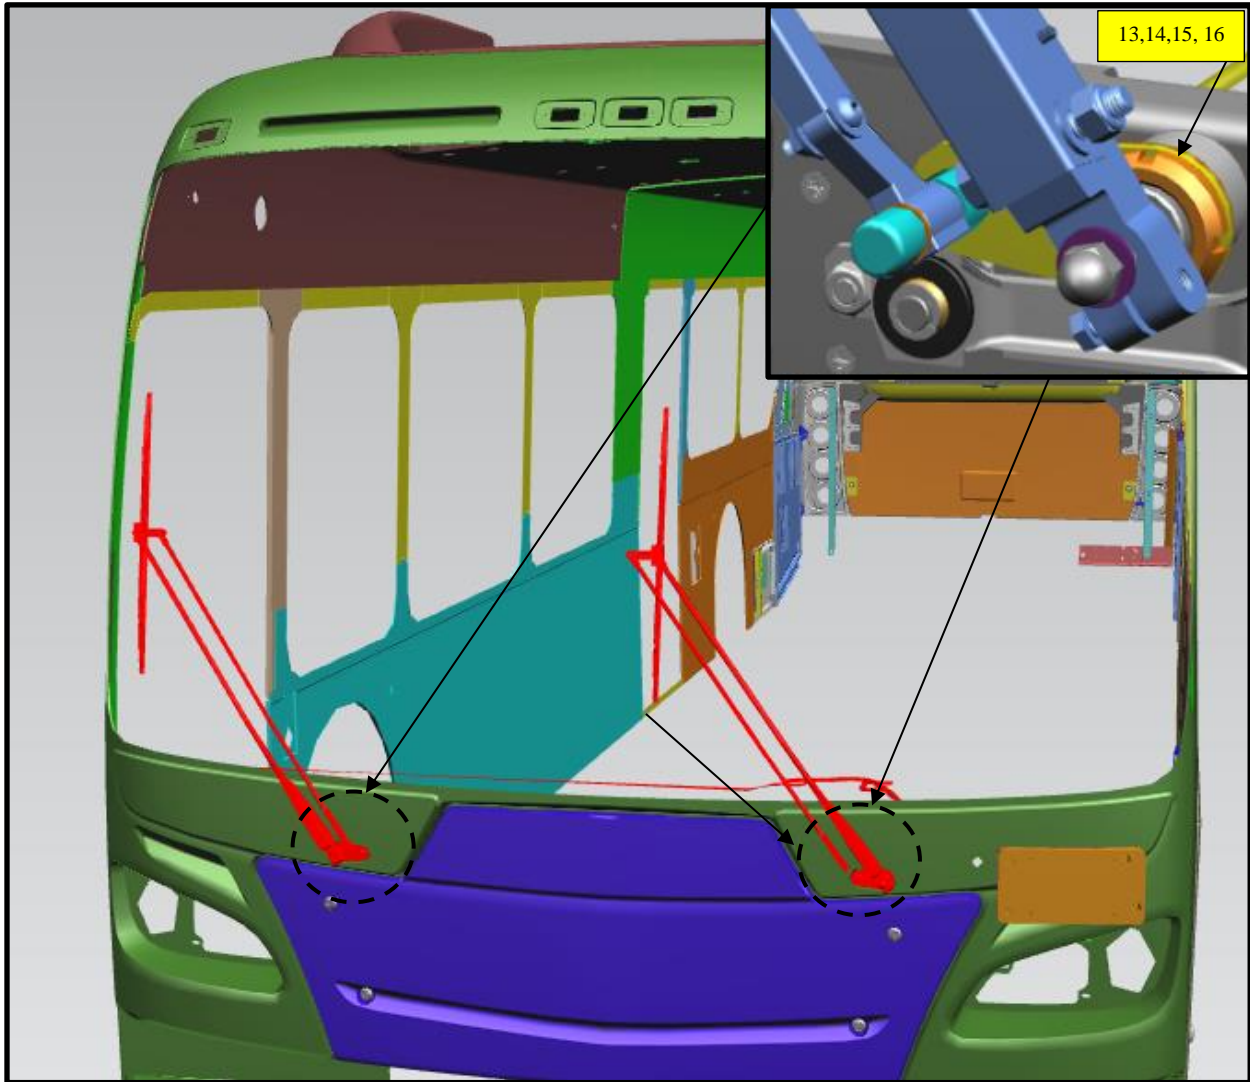

Figure 5: Spanner nut, spacer, and gasket location reference.
20. Secure by reusing spanner nut #16. Torque spanner nut to 10-12 ft-lbs. See Figure 5.